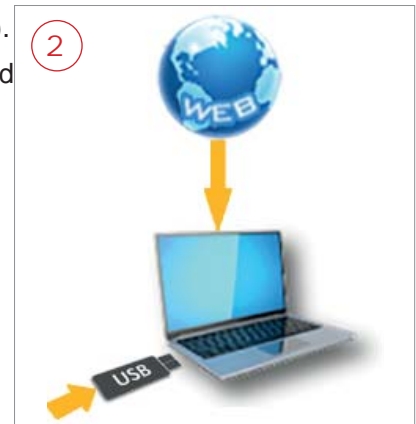

Fig. 22
- 2) Insert the USB PEN DRIVE into a PC connected to the internet (Fig. 22).